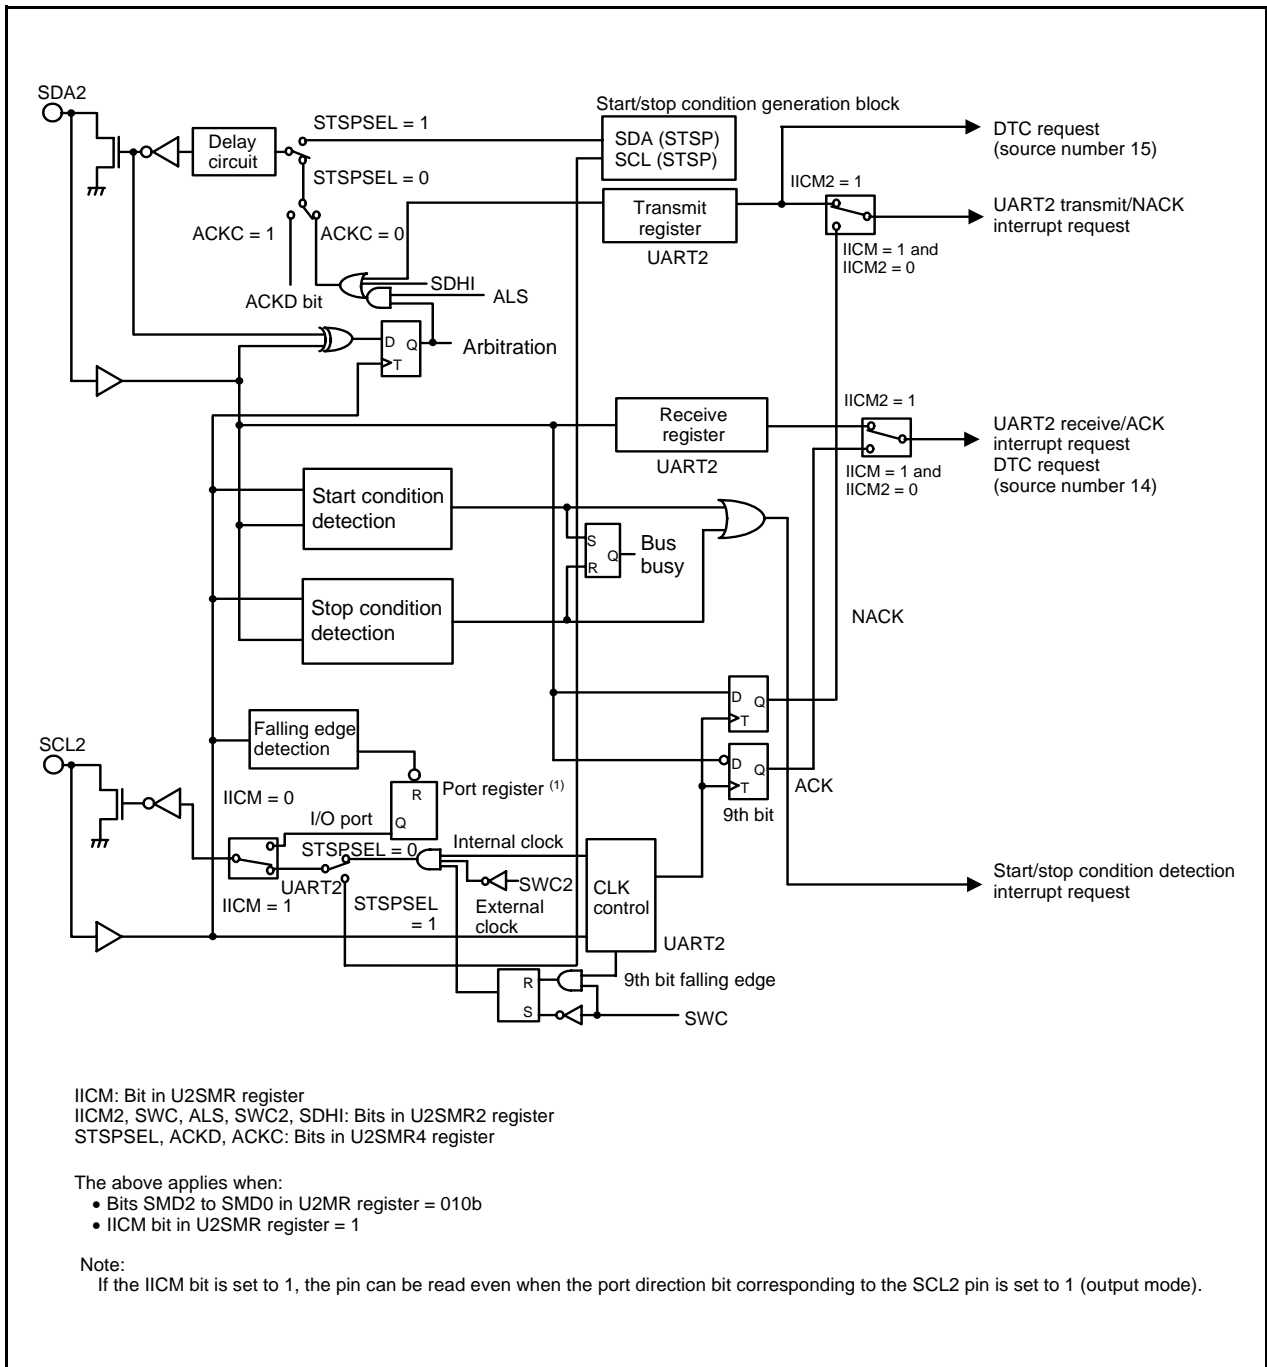
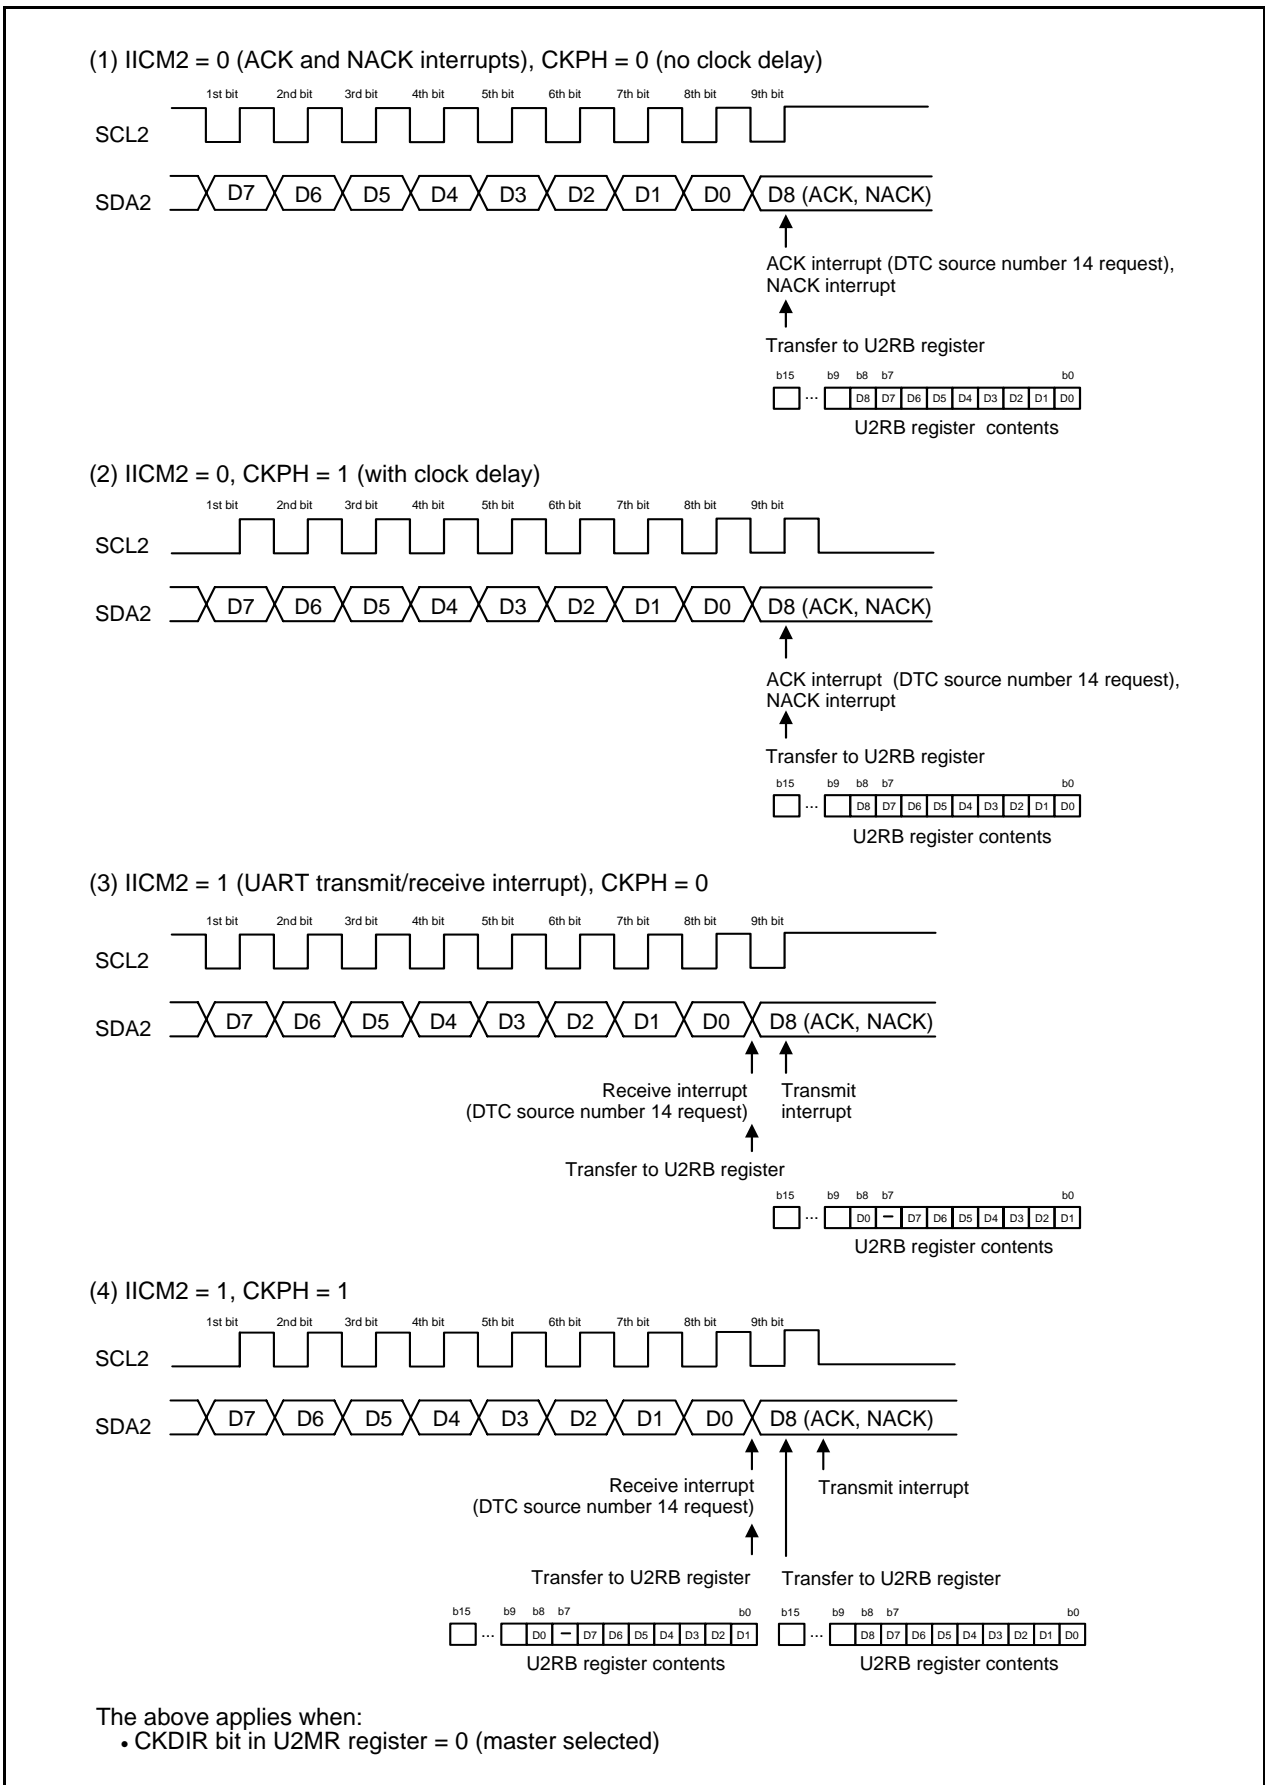

Figure 22.13 I2C Mode Block Diagram
Figure 22.14 Transfer to U2RB Register and Interrupt Timing
I2C mode is provided for use as a simplified I2C interface compatible mode. Table 22.9 lists the I2C Mode Specifications. Tables 22.10 and 22.11 list the registers used in I2C mode and the settings. Table 22.12 lists the I2C Mode Functions, Figure 22.13 shows an I2C Mode Block Diagram, and Figure 22.14 shows the Transfer to U2RB Register and Interrupt Timing.
6. Refer to **Figure 22.14 Transfer to U2RB Register and Interrupt Timing**.
The transfer clock is used to transmit and receive data as is shown in **Figure 22.14 Transfer to U2RB Register and Interrupt Timing**.